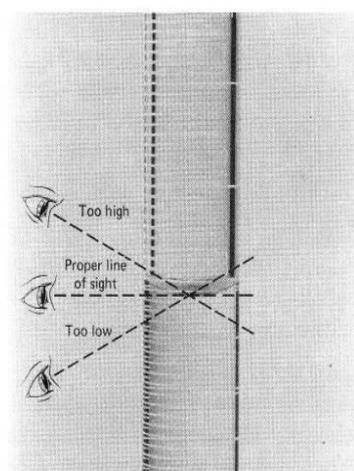
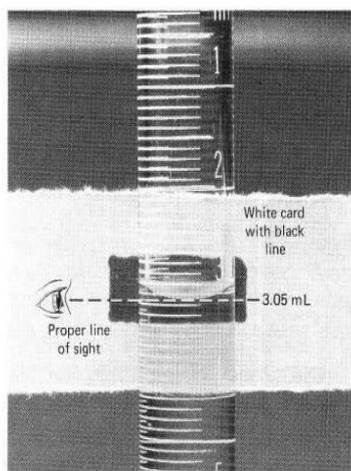

Figure T.16a Read the volume of a liquid with the eye horizontal to the bottom of the meniscus.
Figure T.16b Use a black line drawn on a white card to assist in pinpointing the location of the bottom of the meniscus.
- 1. Reading a Meniscus.** For measurements of liquids in graduated cylinders, pipets, burets, and volumetric flasks, the volume of a liquid is read at the *bottom of its meniscus*. Position the eye horizontally at the bottom of the meniscus (Figure T.16a) to read the level of the liquid. A clear or transparent liquid is read more easily, especially in a buret, by positioning a black mark (made on a white card) behind or just below the level portion of the liquid. The black background reflects off the bottom of the meniscus and better defines the level of the liquid (Figure T.16b). Substituting a finger for the black mark on the white card also helps in detecting the bottom of the meniscus but is not as effective.
2. **Recording a Volume.** Record the volume of a liquid in **volumetric glassware** using all certain digits (from the labeled calibration marks on the glassware) *plus* one uncertain digit (the last digit which is the best estimate between the calibration marks). In Figure T.16b, the volume of solution in the buret is between the calibration marks of 3.0 and 3.1; the “3” and the “0” are certain, the “5” is the estimate between 3.0 and 3.1. The reading is 3.05 mL. Be aware that all volume readings do *not* end in “5!”